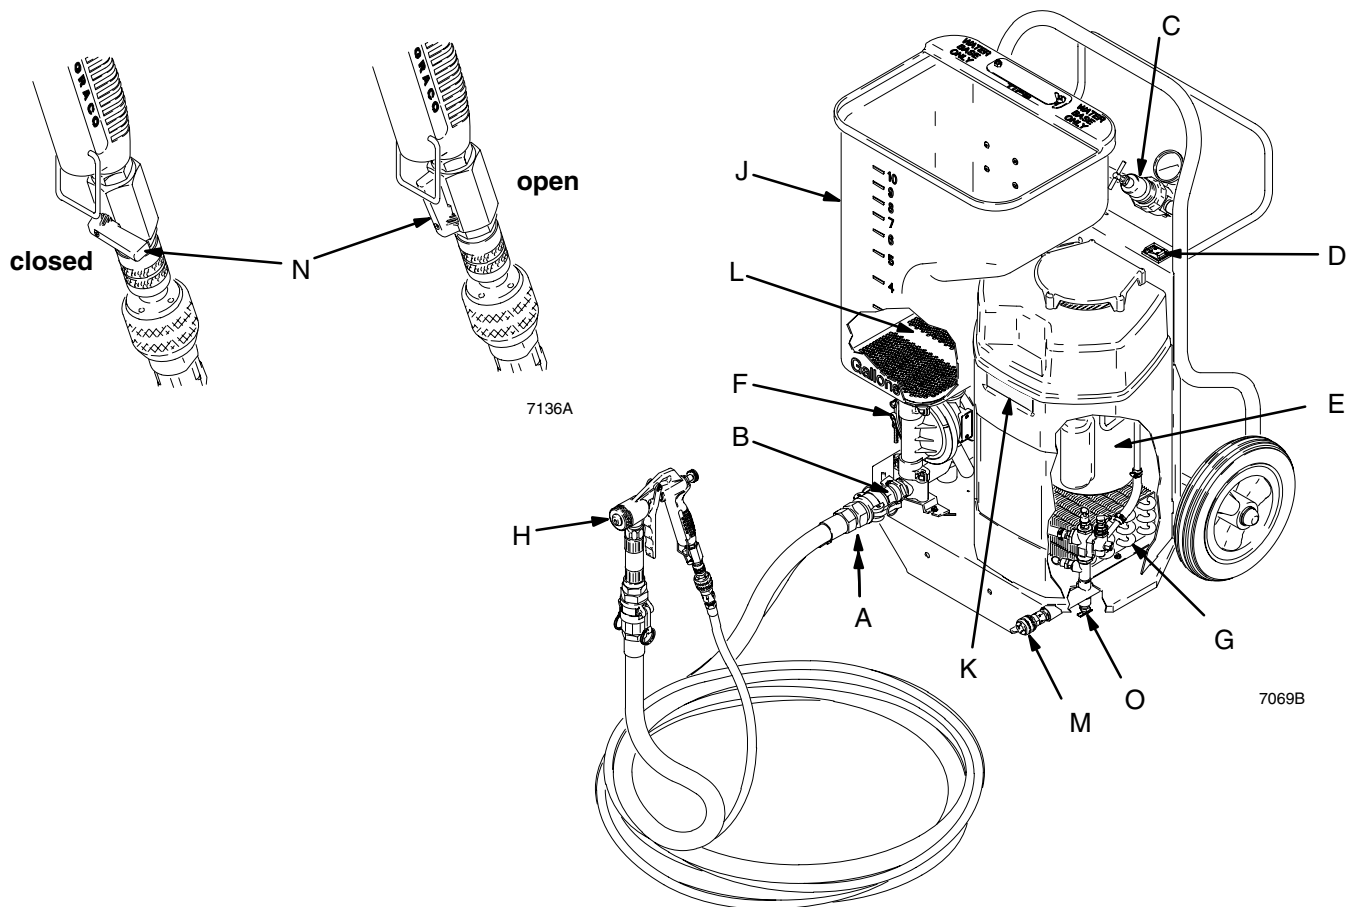

Fig. 1
5. Place a rag over the pump outlet fitting (B in Fig. 1), and slowly open the cam locks to relieve residual pressure.